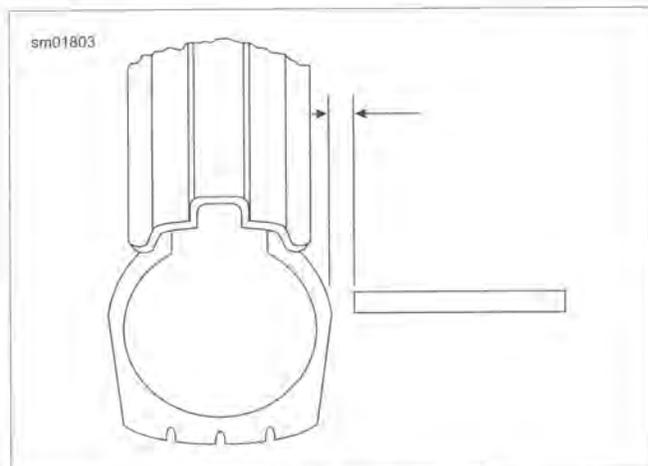

Figure 2-40. Checking Tire Lateral Runout
2. See Figure 2-40. Turn the wheel on the axle and measure tire lateral runout from a fixed point to a smooth area on the tire sidewall. Avoid measuring on raised letters or vents.